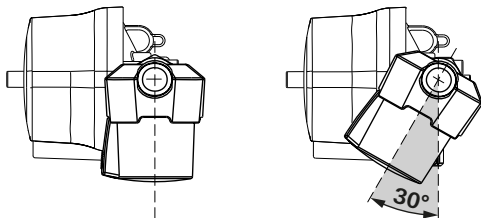

Fig. 6
- i** If the filter cup is not easily accessible, it is permissible to install the gas filter leaning forwards at an angle of up to 30° (Fig. 6). This makes it easier to operate the filter cup when exchanging the filter pad.